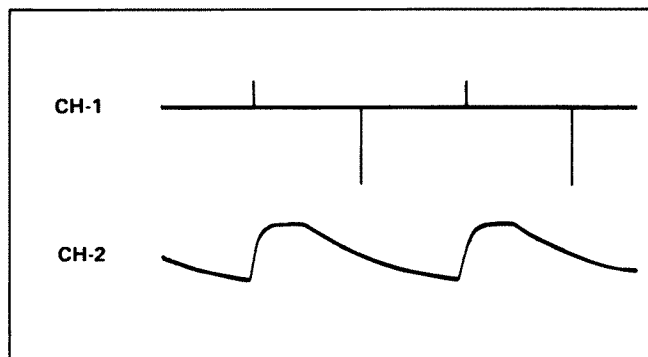

Fig. 4-12. Phase lock
- (1) Play back the β II mode of the alignment tape.
- (2) Connect the oscilloscope CH-1 probe to pin 19 of IC2 and the CH-2 probe to pin 20 of IC2.
- (3) Set the TAPE SPEED switch (S4, rear of the set) to β I.
- (4) Adjust RV5 for the phase lock shown in Fig. 4-12.